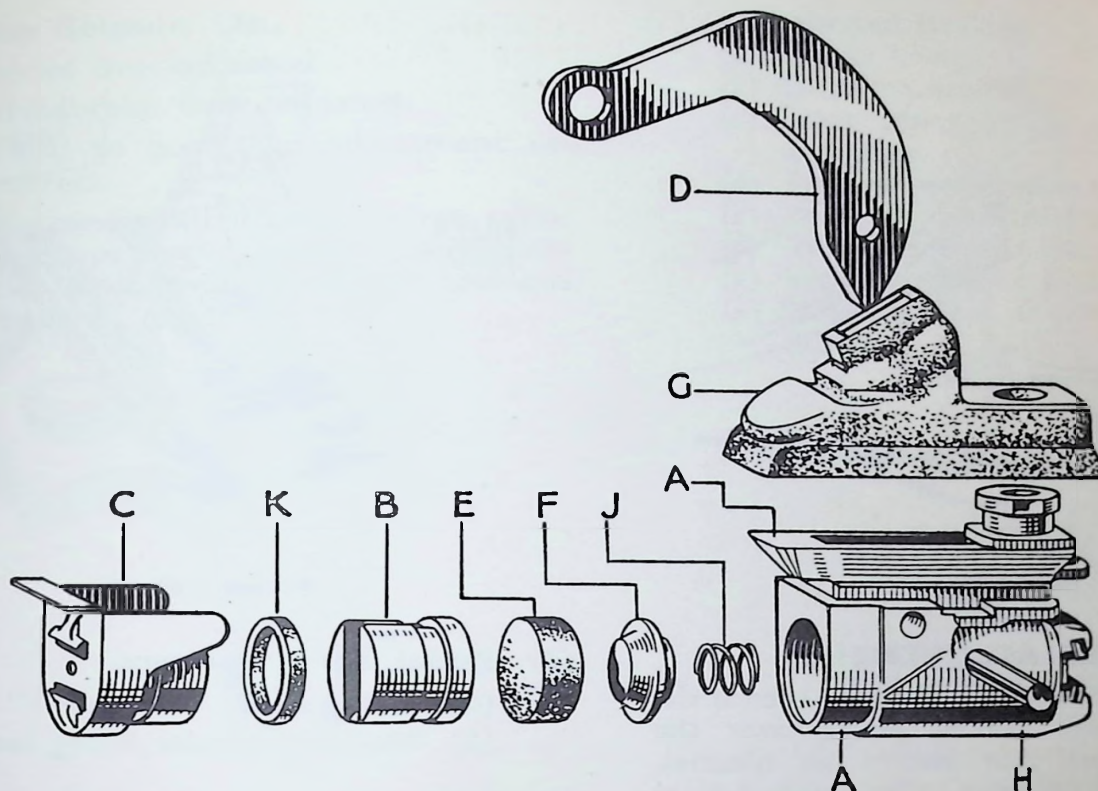

Fig. 6. Rear Wheel Cylinder Exploded.
The wheel cylinder (A), see Fig. 6, contains a single piston split in two, the inner piston (B) being hydraulically operated while the outer piston (C) is manually operated by the handbrake lever (D). A rubber cup (E) mounting a cup filler (F) is loaded upon the inner piston by a spring (J). When operated hydraulically the inner piston butts against the outer piston, leaving the handbrake lever (D) undisturbed, and applies a thrust to the tip of the leading shoe through the dust cover, the "Micram" adjuster and mask. When operated manually an inwards movement of the handbrake lever brings the heel of the lever into contact with the outer piston (C) thrusting it outwards against the leading shoe without disturbing the inner piston. A rubber boot (G) is fitted to prevent the ingress of foreign matter. (Note the sealing ring "K" mounted on a recess on the outer piston "C").